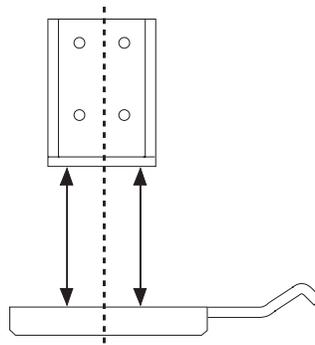

fig. B.9
- Align the upper bracket so that it is parallel and perpendicular with the lower bracket (fig. B.9).